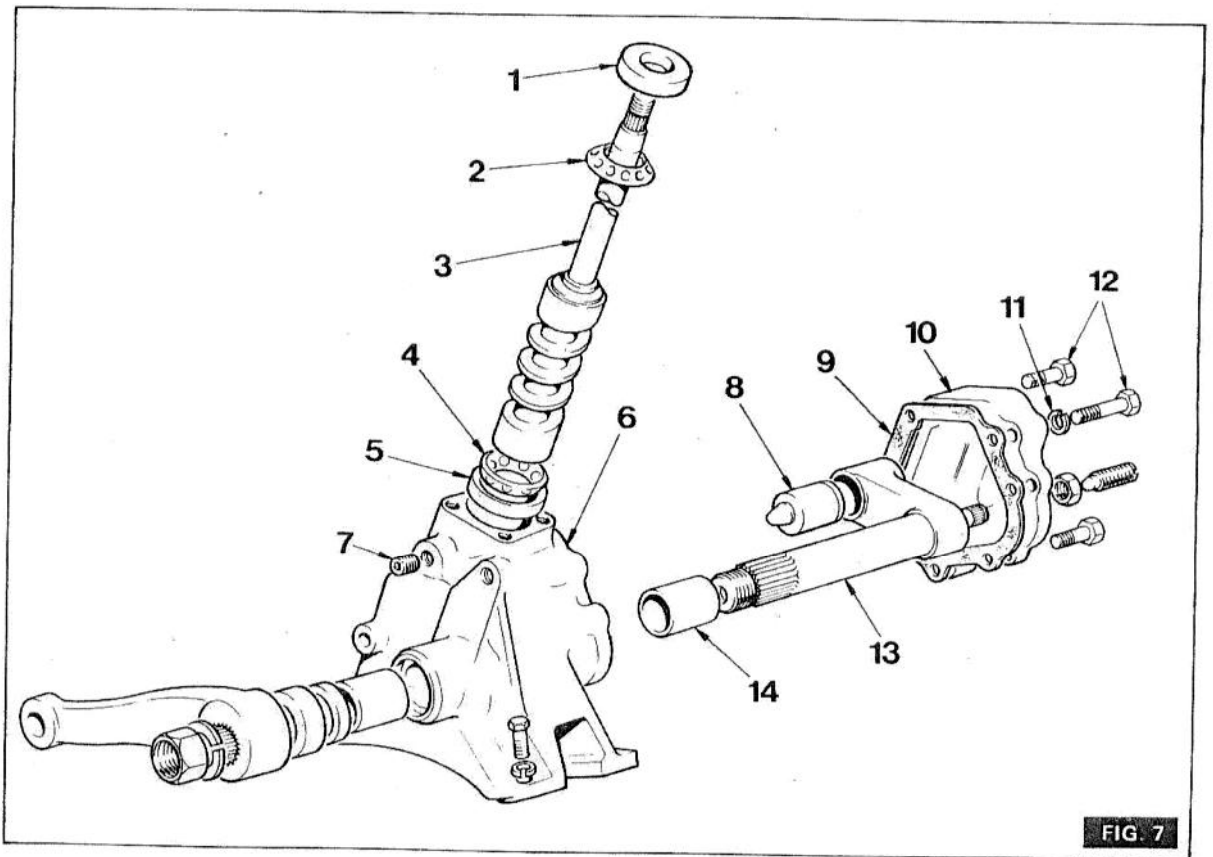

FIG. 7
2. (Fig. 7) Remove the plug (7) from the left hand side of the box and drain off the oil.
3. Remove four bolts (12) and spring washers (11) securing the side cover (10) to the box (6) Detach the cover (10) and joint (9).
4. Withdraw the rocker shaft (3) from the steering box. (6)
5. Withdraw the steering shaft (3) together with the upper bearing cup (1) and upper bearing (2) from the steering box.
6. Remove the lower bearing (4) from the steering box.
7. Pull out the peg (8) from the rocker shaft.
8. Replace the rocker shaft oil seal (14) and the steering shaft lower bearing cup. (5)
4. (Fig. 7) Refit the peg (8) to the rocker shaft (13). Assemble the rocker shaft into the box, locating the peg into its thread on the column.
5. Refit the side cover (10) and joint (9) and secure in position with four bolts (12) and spring washers (11).